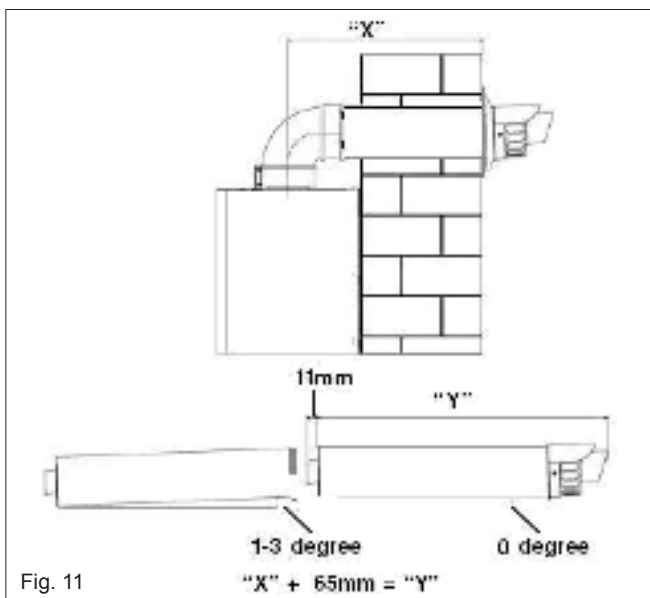

Fig. 11
When the position of the appliance has been decided – using the template supplied – carefully mark the position of the wall mounting bracket (see fig. 11) and flue-hole (if applicable).
Using the template provided (A), mark and drill a 125mm hole for the passage of the flue pipe. The hole should be drilled to ensure any condense fluid that forms, is allowed to drain back to the appliance (see fig. 11). The fixing holes for the wall-mounting bracket should now be drilled and plugged, an appropriate type and quantity of fixing should be used to ensure that the bracket is mounted securely. Once the bracket has been secured to the wall, mount the appliance onto the bracket.
Carefully measure the distance from the centre of the appliance flue outlet to the edge of the finished outside wall (dimension X). Add 65mm to dimension X to give you Dimension Y (see fig 11). Measure dimension Y from the terminal end of the concentric flue pipe and cut off the excess ensuring any burrs are removed. Pass the concentric flue pipe through the previously drilled hole. Fit the flue bend to the boiler flue outlet and insert the concentric flue pipe into the flue bend ensuring the correct seal is made. Using the clamp, gasket, and screws supplied, secure the flue bend to the appliance flue spigot.
Using the dimensions given in fig. 11 as a reference, mark and cut a 125mm hole in the ceiling and/or roof.